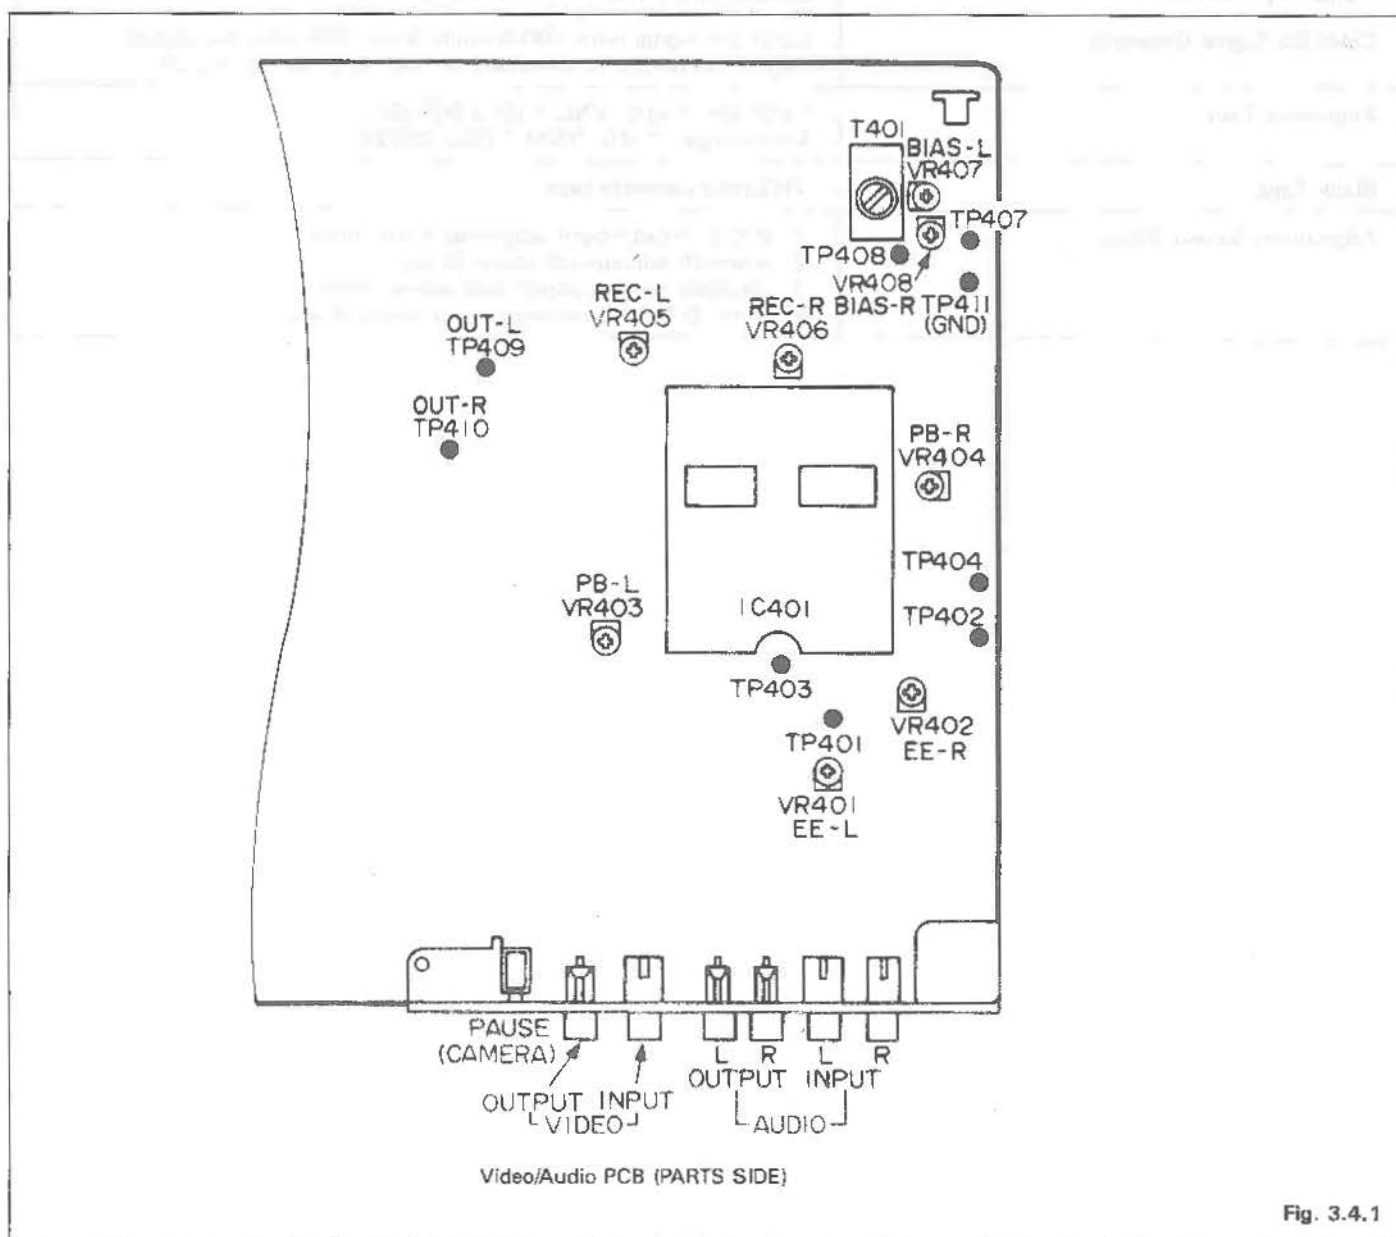
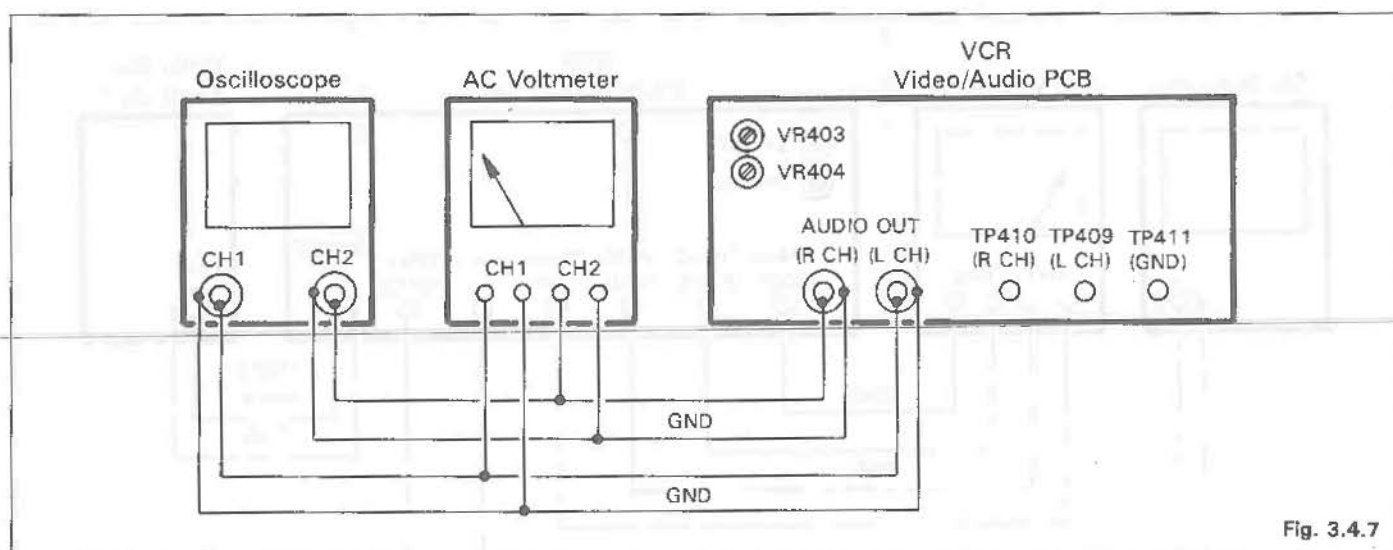

Fig. 3.4.1
Fig. 3.4.7
3. After confirming on the oscilloscope that a 1 kHz sine wave is being output, adjust VR401 (E-E L CH) so that the AC voltmeter's reading (CH1) is  $-10 \text{ dBV} \pm 0.5 \text{ dB}$ . (Refer to Fig. 3.4.1)
1. Connect the AC voltmeter (CH1, CH2) and the oscilloscope to the AUDIO OUTPUT terminals (L, R), or connect the AC voltmeter (CH1, CH2) and the oscilloscope to TP409 (L CH), TP410 (R CH) and TP411 (GND). (Refer to Fig. 3.4.7)
2. Load the alignment tape (VNC-1), and set the VCR to the PLAY (SP) mode.
3. After confirming on the oscilloscope that a 1 kHz sine wave is being output, adjust VR403 (PB LCH) so that the AC voltmeter's reading for the L CH is  $-10 \text{ dBV} \pm 0.5 \text{ dB}$ . (Refer to Fig. 3.4.1)